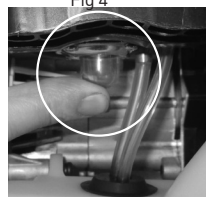

Fig 5
- 3) Pump the Fuel Prime Bulb (9) 5 to 10 times or 3 to 4 times after fuel is present in the Fuel Prime Bulb (9) (Fig 5).